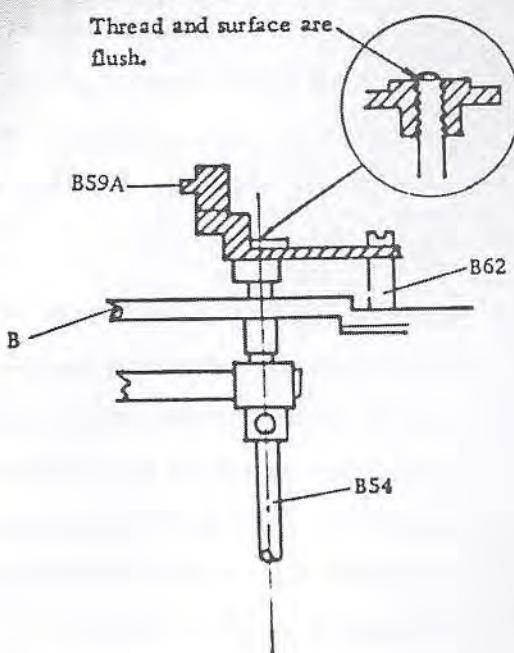

Fig. 14
b. Screw the signal lever (B59A) into the threaded hole on the shaft (B54) end. Secure the screw (B62) at a position where the threaded hole end is aligned flush with the signal lever surface. (Fig. 14)